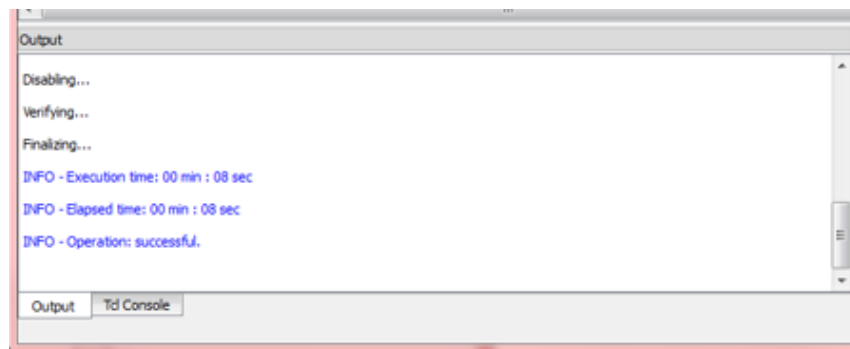

Figure 4.8. Output Console
5. In the Diamond Programmer main interface, click the **Program** button  to start the programming operation. Successful programming is displayed in the Diamond Programmer **Output** console as shown in Figure 4.8.